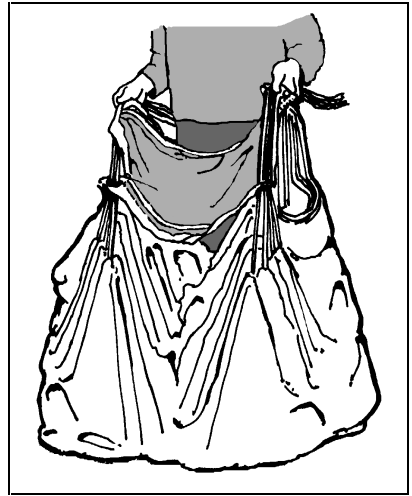

Figure 10.
Step 6.) Anchor the harness /container system and apply tension to the lines. Step between the right and left line groups and grasp the right line groups in the right hand and the left line groups in the left hand. Push the slider toward the canopy, and walk forward. Pick up the canopy by the suspension lines and allow it to hang downward (See Figure 10.) Push the slider up as far as it will go until each slider grommet comes to its respective slider stop.